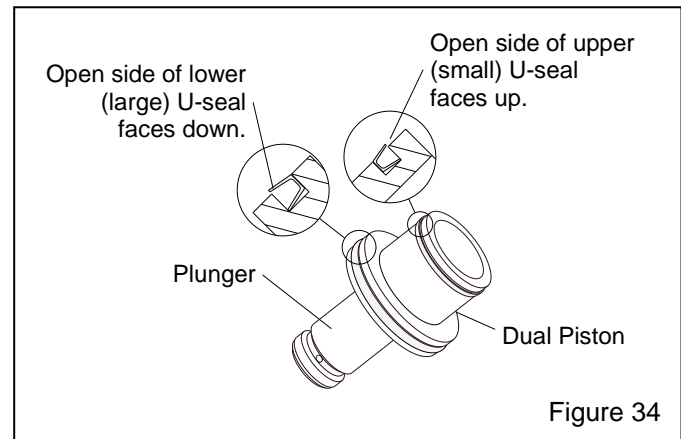

Figure 34
7.3.2.5 Place the U-seals into the grooves on the piston; the open side of the large seal faces the plunger, and the open side of the small one faces away from the plunger, as shown in Figure 34.